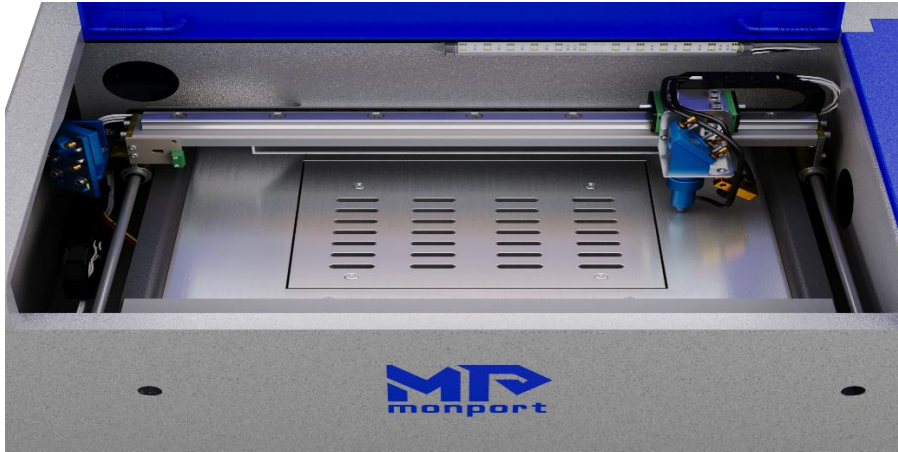

Figure 5-6 - Third Mirror in Position 2
- a. when the second and third mirrors are well aligned in Position 1, slowly and gently move the third mirror along the Y. axis guide rail until it is in Position 2 (Fig. 5-6) far away from the second mirror.